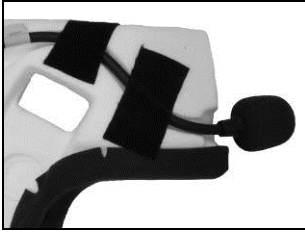
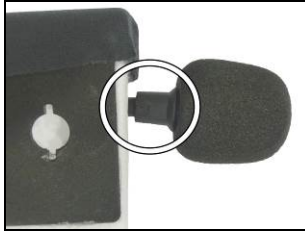

Fig. 48
Fig. 49
- Take the polystyrene check pad (left side) and position the microphone in the special housing, as illustrated in Fig. 48, being careful that the side of the microphone support with the letter "n" is facing towards the inside of the helmet (Fig. 49).
- Secure the microphone to the cheek pad using the "microphone securing stickers", see Fig. 48.